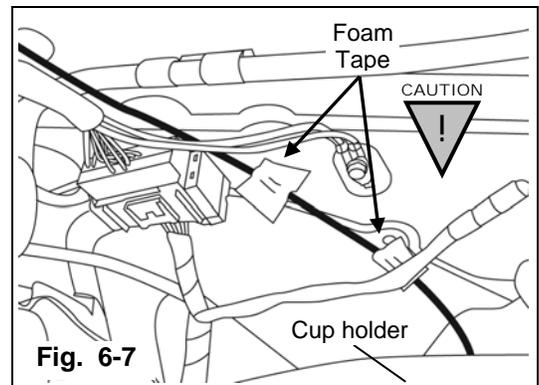

Fig. 6-7
- Continue routing toward D-pillar securing with two (2) pieces of foam tape. (Fig. 6-7).